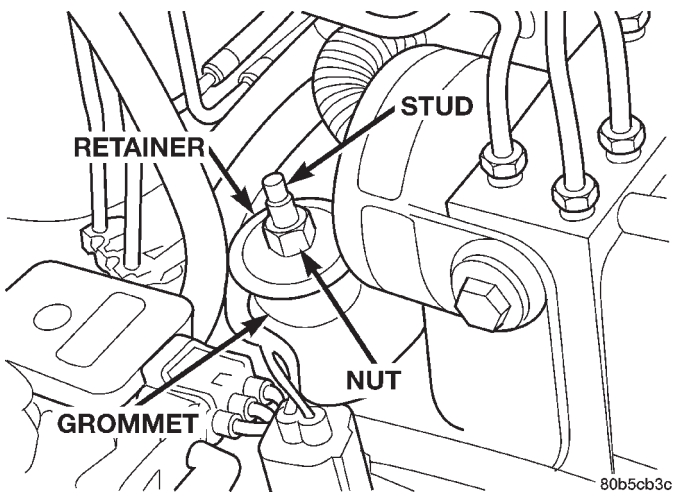

Fig. 2 Upper Shock Mounting
(1) Remove the nut, retainer and grommet from the shock stud in the engine compartment (Fig. 2).